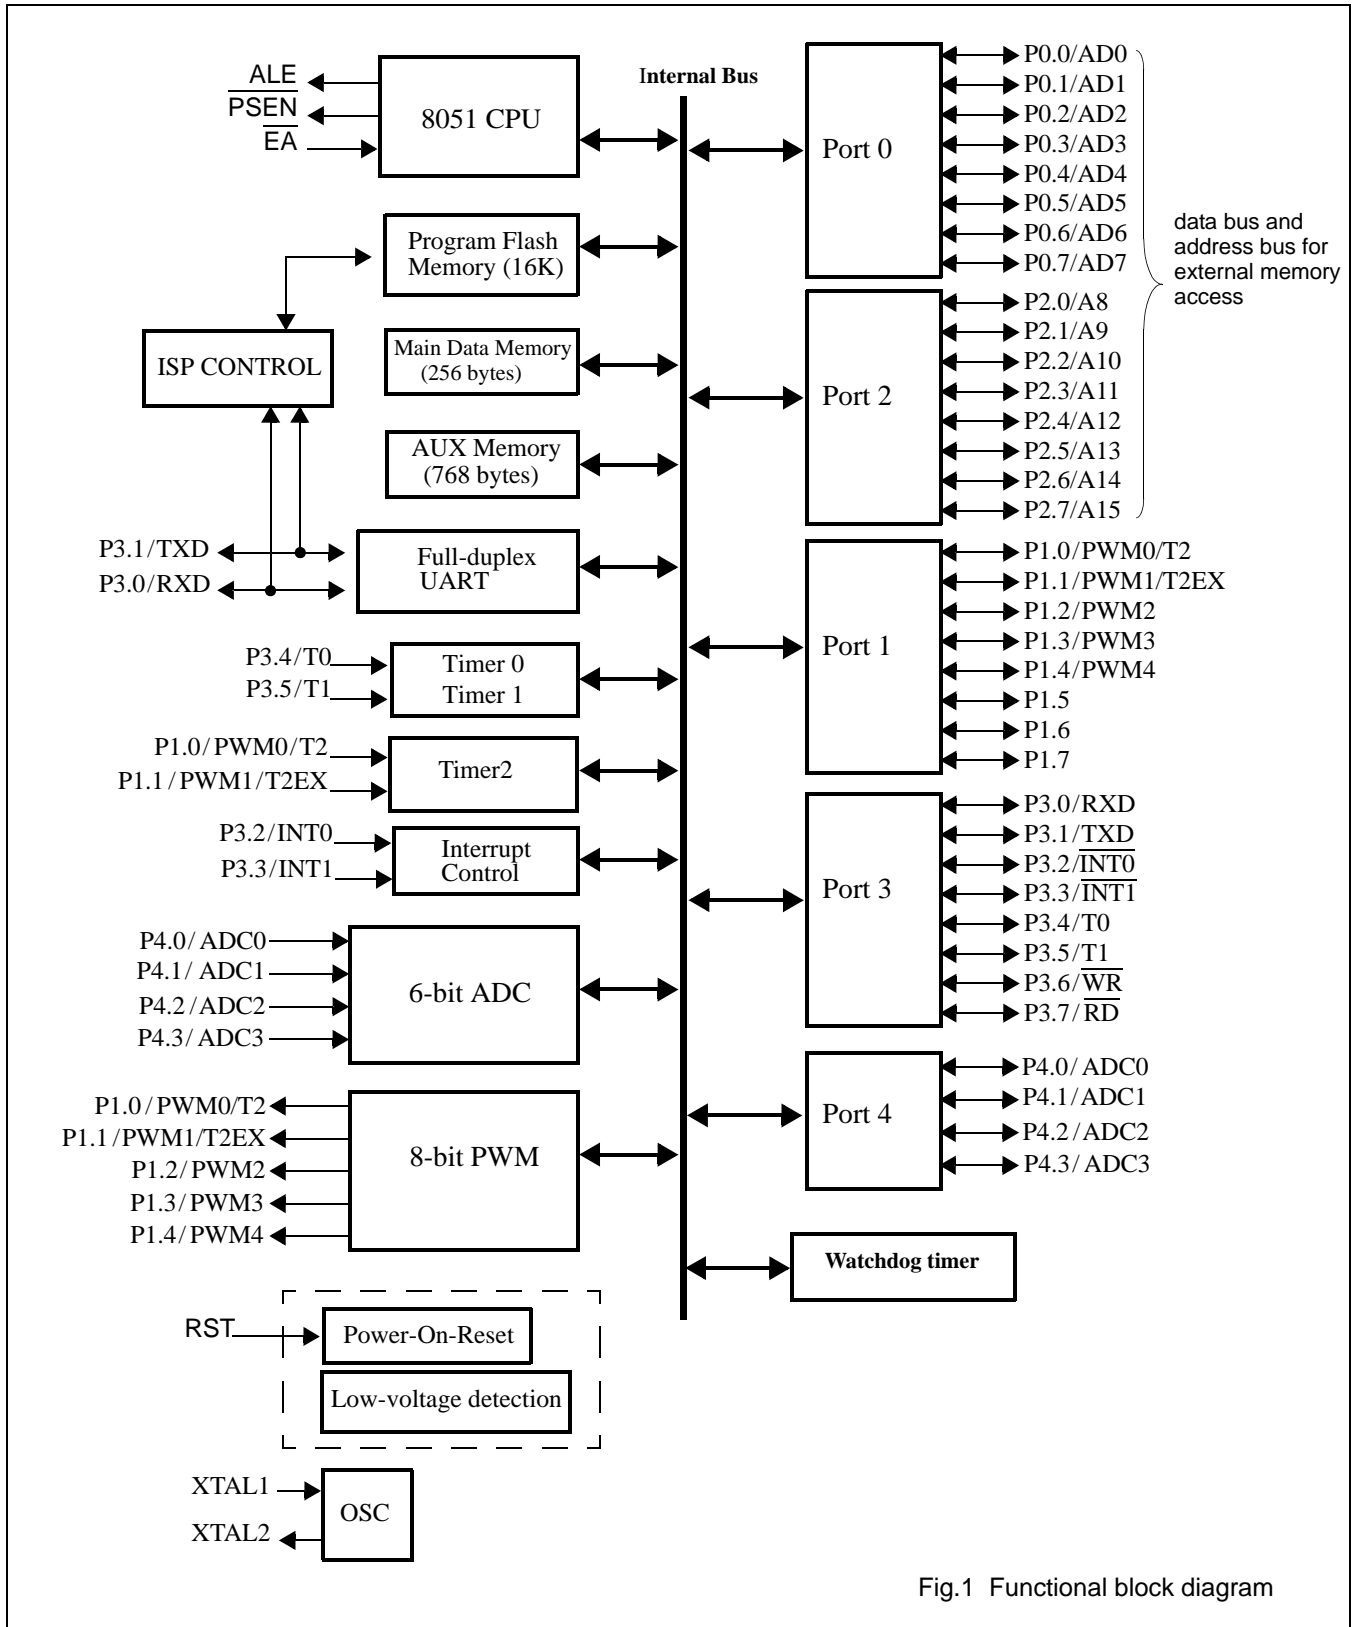

Fig.1 Functional block diagram
- Figure 1** Functional block diagram... Page 5